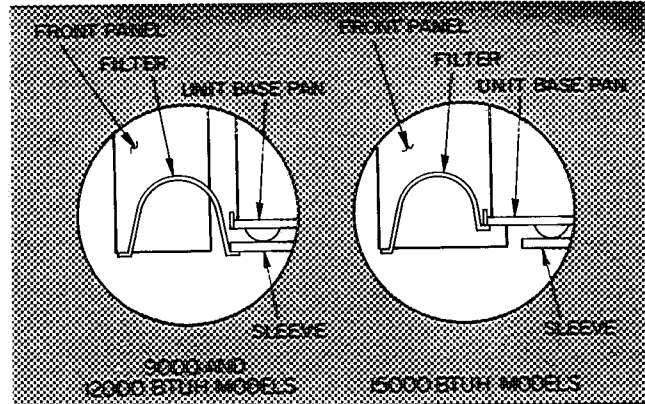

Fig. 4 — Filter Installation
**To Install Chassis** in sleeve: Remove 2 screws from the bottom of the inside closure panel. Remove and discard panel. Reach thru the sleeve to remove the rear closure panel. Discard panel. Retighten the screws holding the grille. Slide unit chassis into the wall sleeve. If unit is 277-volt, install wire raceway. See installation instructions shipped with raceway. Engage the hooks on the side of the metal panel in the slots in the side flanges of the wall sleeve. Refer to Fig. 4 and install the filter. Plug in the unit.
Vacuum or wash filter in warm water. Shake to remove water. To replace filter, fold and slide it up into the area between the panel front and the unit. See Fig. 4.